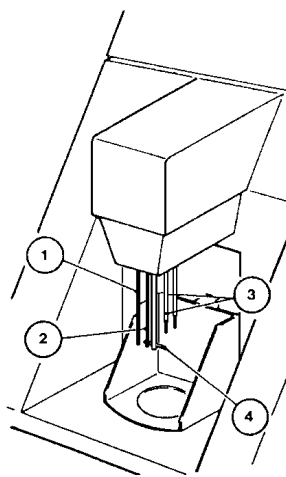

Figure 8.1 Electrodes and Electrode Head
Note that the anode (item 1, figure 8.1) is longer than the other three electrodes.